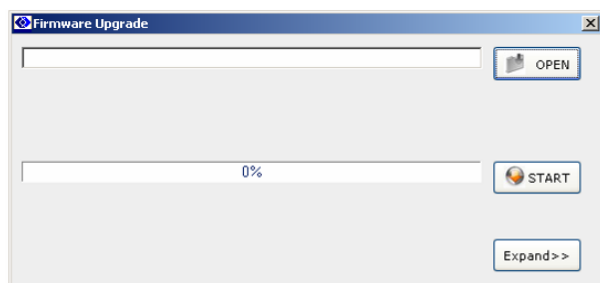

Figure 1
- 2) Click “Firmware Upgrade” from the Start menu, or start “Firmware Upgrade.exe” under the folder of upgrading software installation, the screen will show you the upgrading procedure interface (refer to Figure 1). Press “Expand” to enter into the expansion interface (refer to Figure 2). Press “Test” to test whether the RS232 connection is connected normally. If it is normal, the computer will display “communication is normal”. Press “Compress” to resume the original interface.
| 12 | Control Mode | Control Mode | Block | Under this mode (reaching goal temperature namely entering the thermostatical state), the time for reagent's temperature under goal temperature is less than setting time (see Fig. 1). |